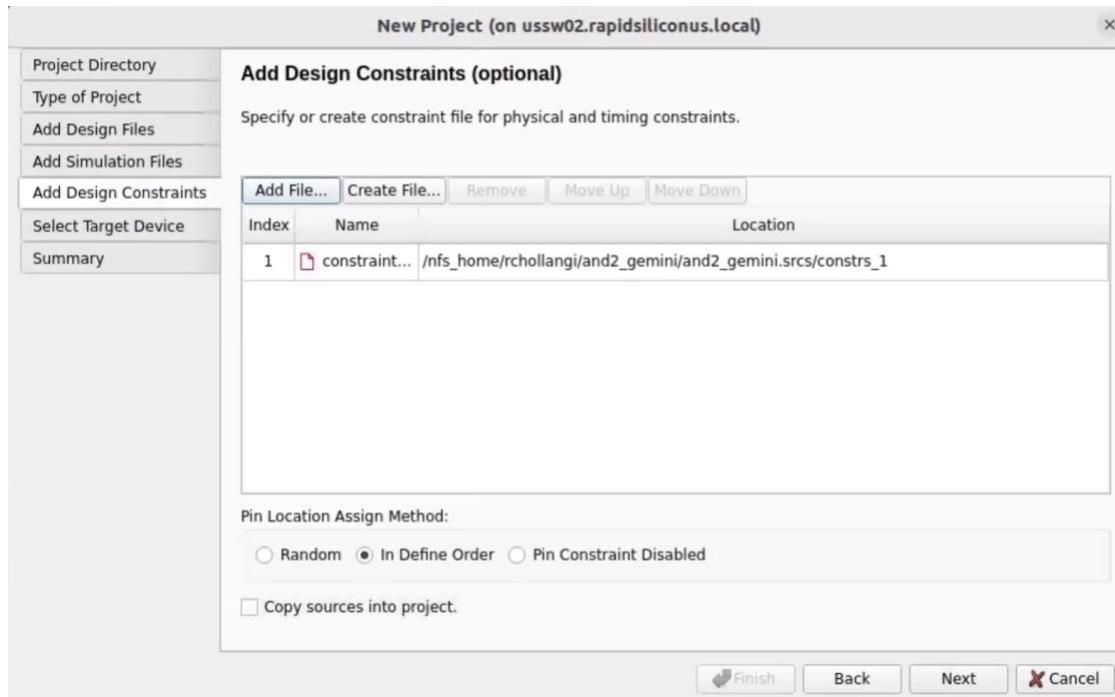

Figure 17. Add Design Constraints
8. Add Design Constraints: Similarly, the user can add or skip design constraint files as shown in Figure 17.